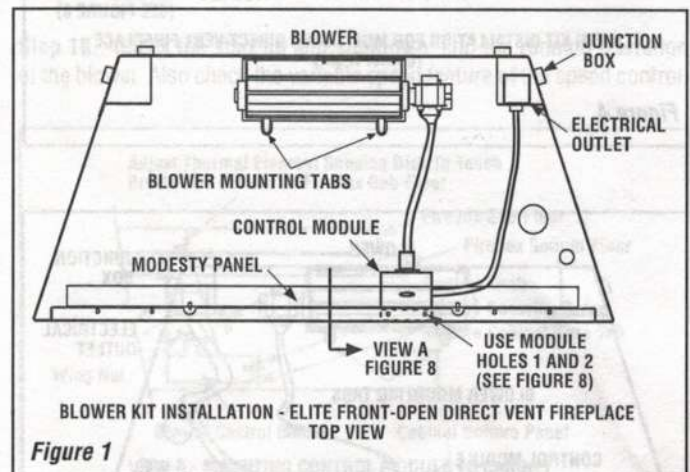
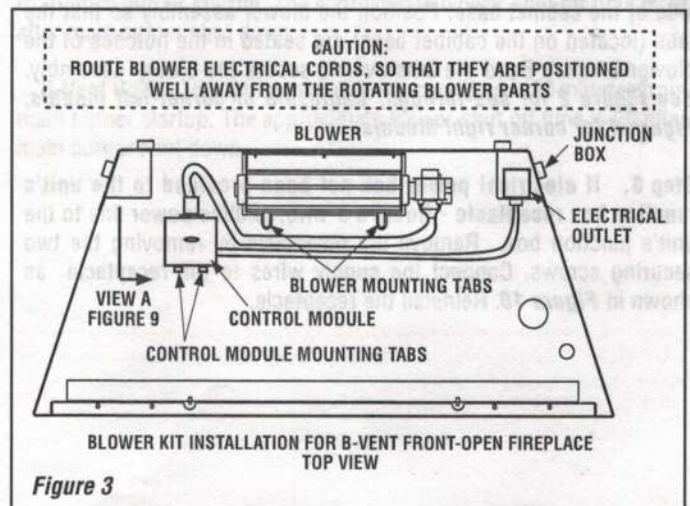

Figure 1
Figure 3
**Step 7. Front-open direct vent and B-vent units** - Slide the blower assembly through the front opening to the middle rear area of the cabinet base. Position the blower assembly so that the tabs (located on the cabinet base) are seated in the notches of the blower bracket. Then bend the tabs over to secure the blower assembly. See *Figure 1, direct vent models; Figure 3, B-vent models.*
- a - see **Figure 1** for Elite-2 Front -open units;
**B-vent units** - There are two module mounting tabs located on the cabinet base just to the left/front of the blower, as shown in **Figure 3**. Bend these tabs up, 90 degrees. Place the control module behind the vertical tabs as shown in **Figure 3** and secure the module to the tabs with the two screws provided in this kit.